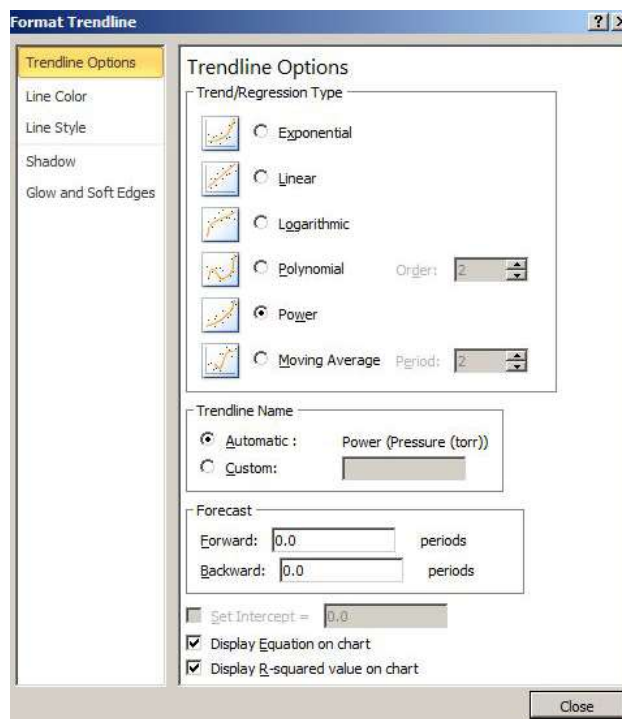

Figure 7.12: Adding a curve fit (trend line). credit: author
- Open the **Add Trend line** menu (Figure 7.12) by selecting a data point on the graph and right clicking or choosing the Trendline option on the Chart Tools Layout menu.